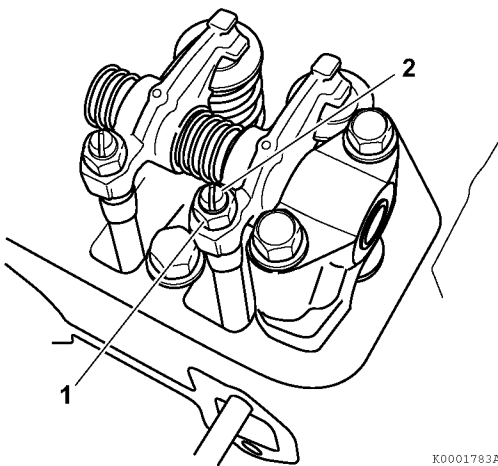

Figure 6-36
5. Loosen the valve adjusting screw lock nut (**Figure 6-36, (1)**) and valve adjusting screw (**Figure 6-36, (2)**) on the rocker arm. Check the valve for inclination of the valve cap, entrance of dirt, or wear.
6. Insert a feeler gauge of the correct thickness (**Figure 6-37, (1)**) between rocker arm and valve cap. Turn the valve adjustment screw to adjust the valve clearance so there is a slight "drag" on the feeler gauge when sliding it between the rocker arm and valve cap. Hold the adjusting screw while tightening the valve adjusting screw lock nut (**Figure 6-36, (1)**). Recheck the clearance (*see Adjustment Specifications on page 6-4*).